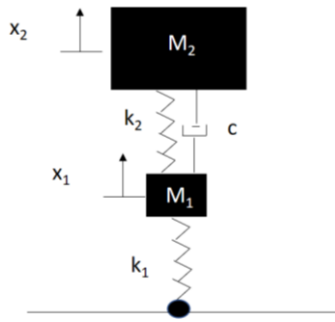

Figure Q1a
1. Figure Q1a shows the schematic of a quarter car model. The vertical vibration characteristics of the car and the unsprung mass are to be modelled using a simple 2 DOF mass-spring-damper model.